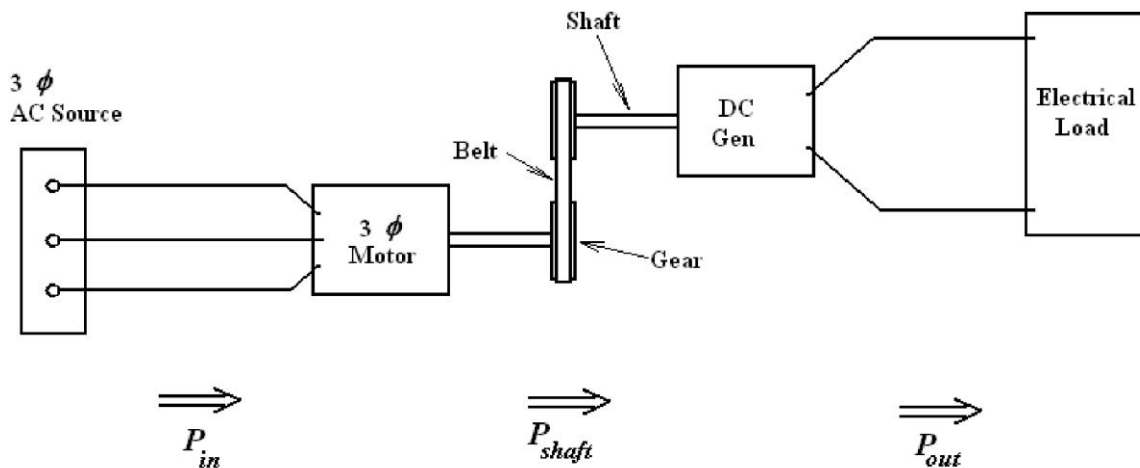
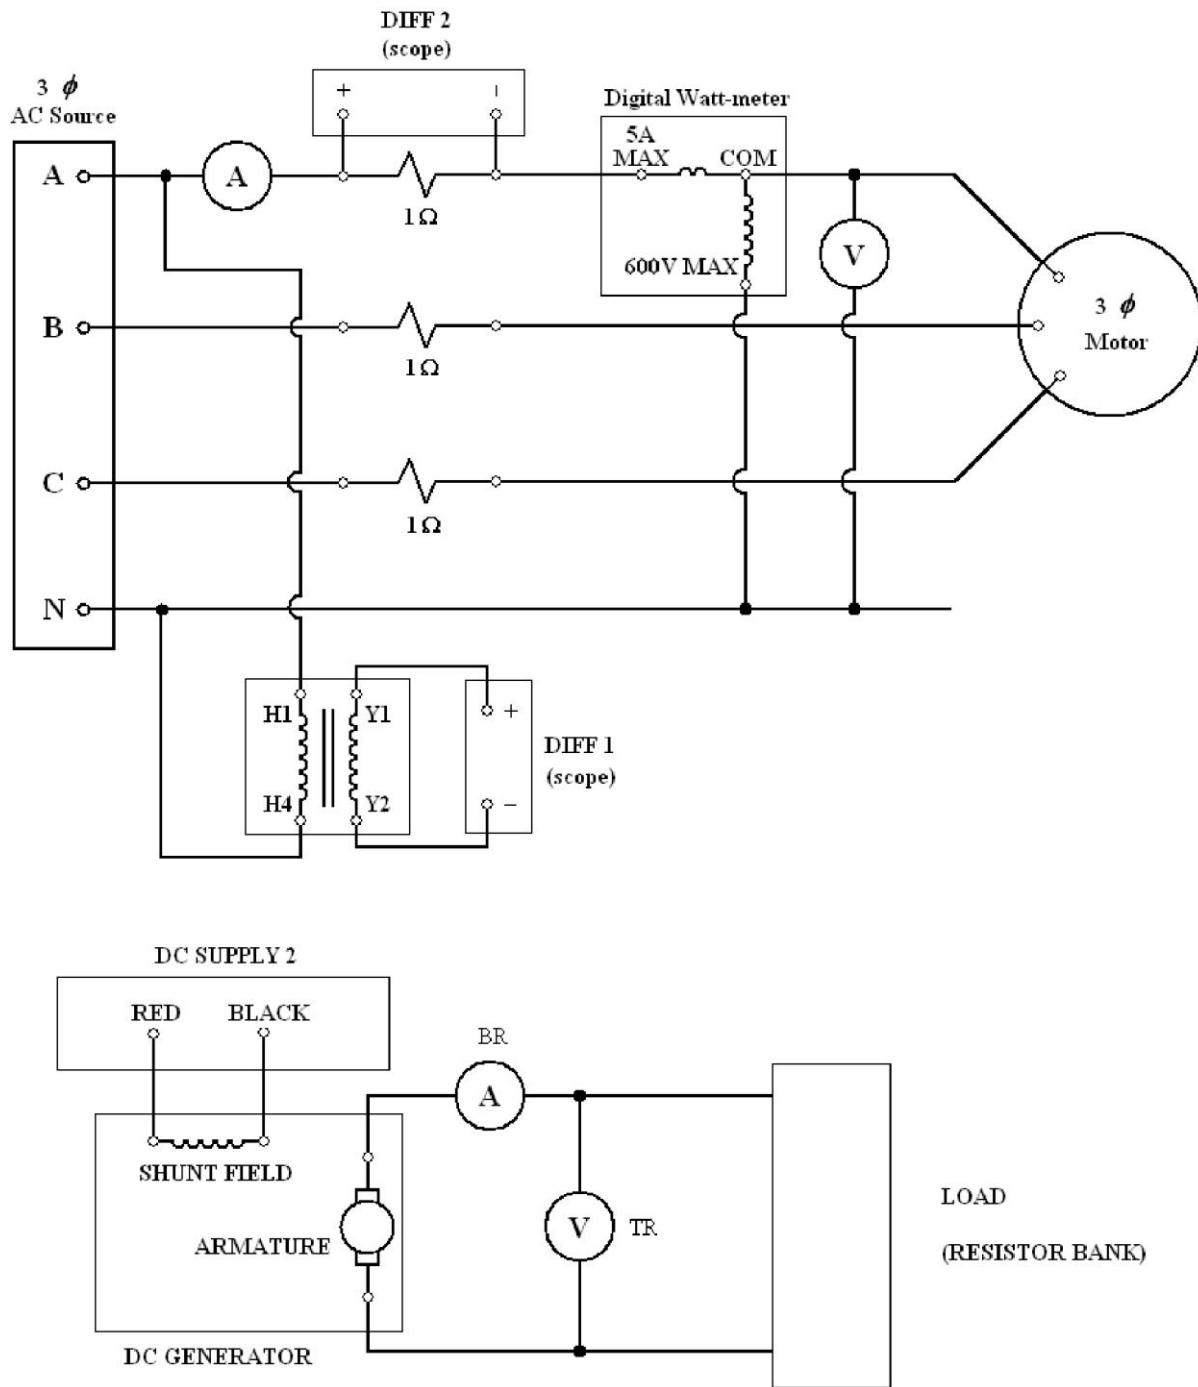

Figure 1
Figure 2
Motor – Generator sets have many practical applications. Our main interest with the present lab is to gain an understanding of basic power relationships in a simple electromechanical system in lieu of exploring practical applications. In understanding M-G set operation it is critical understand the “power flow path.” This path is defined as follows: power flows from the electrical source in the console into the motor. The motor converts this electrical power into mechanical power. This mechanical power is transferred to the generator via a belt and gear assembly and the generator converts this mechanical power into electrical power. Finally this electrical power is absorbed by the electrical load at the “end” of the system. Figure 1 shows the corresponding electromechanical diagram with energy flow direction.
The three-phase motor (blue faceplate) in Figure 1 is a 115V (line-line), ¼ horsepower motor. The generator is a 125 Volt, 1/3 horsepower DC machine that is an integral part of the dynamometer setup. The electrical load is a resistor bank with a total of five toggle switches which must be in the “**up**” position while running the experiment. Measurement equipment is not shown in figure one. In order to connect the measurement equipment needed to conduct the experiment you must make connections according to Figure 2
The generator is loaded by the resistor bank shown in Figure 2. All switches should be in the "off" position (center position) for no-load tests. To load the generator, move all 5 switches to the "up" position (50 Ω load).
A. Connect the system shown in Figure 2. The transformer is used as 20:1 step down transformer on channel 1. Notice that the line current flow into the motor will be displayed on channel two of the scope. Since the one-ohm resistor must be inserted into a phase in order to measure current, a one-ohm resistor is also inserted into the other two phases in order to keep the circuit balanced. Notice that there is an ammeter and voltmeter connected on both the AC and DC circuits. Also notice that the DWM (digital watt-meter) is configured to display single-phase power, not three-phase power. Set the torque-meter to zero N•m’s before proceeding to the next step.